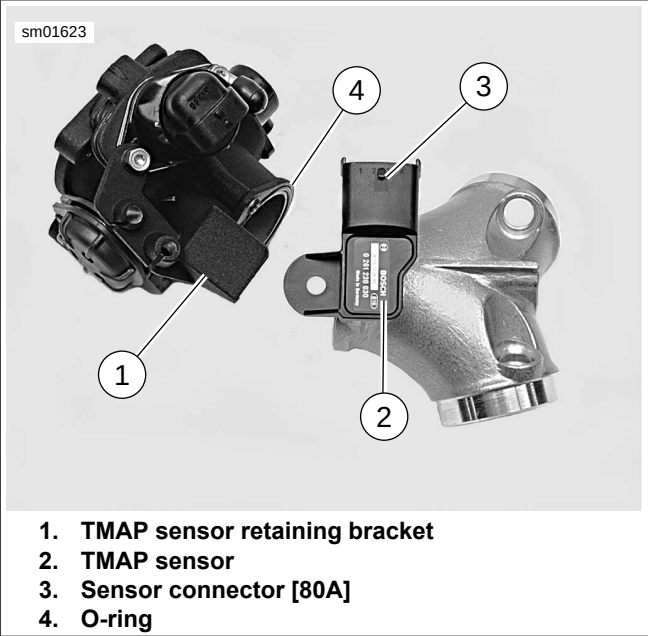

Figure 4-58. TMAP Sensor Removal/Installation
5. See Figure 4-58. Pull induction module away from intake manifold far enough so that TMAP sensor retaining bracket (1) clears TMAP sensor body (2).
6. Unplug harness connector [80B] from TMAP connector [80A] (3).
3. See Figure 4-58. With a gentle twisting motion, insert sensor (2) into intake manifold with connector [80A] (3) facing rear cylinder head.
5. Inspect O-ring (4) between induction module and intake manifold for cuts, tears or signs of deterioration. Install **new** O-ring if necessary. Make certain O-ring is fully seated in its groove in induction module body.